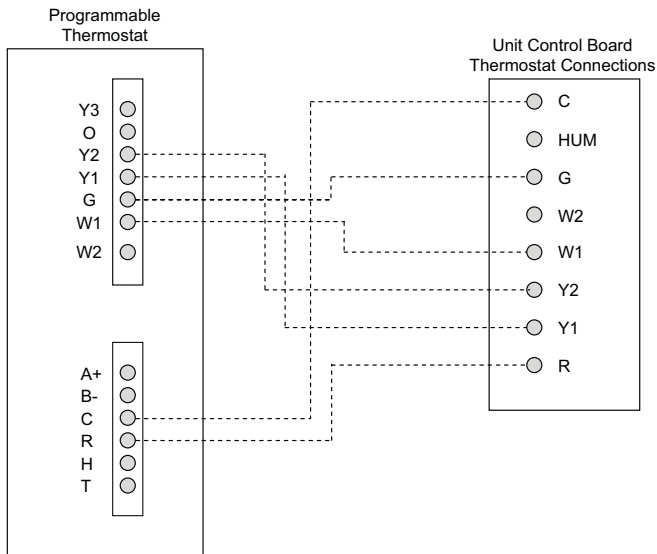
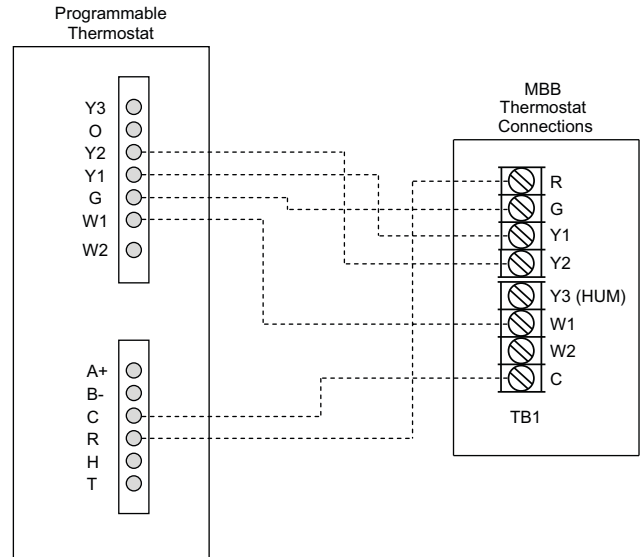

Fig. 56 — Typical Thermostat Connections – Electromechanical Controller UCB
Fig. 57 — Typical Thermostat Connections – SystemVu Controller MBB
4. For electromechanical controller units see Fig. 56 for typical thermostat connections. For SystemVu controller units see Fig. 57. Refer to the installation instructions included with the Carrier Connect Plus thermostat for more information.